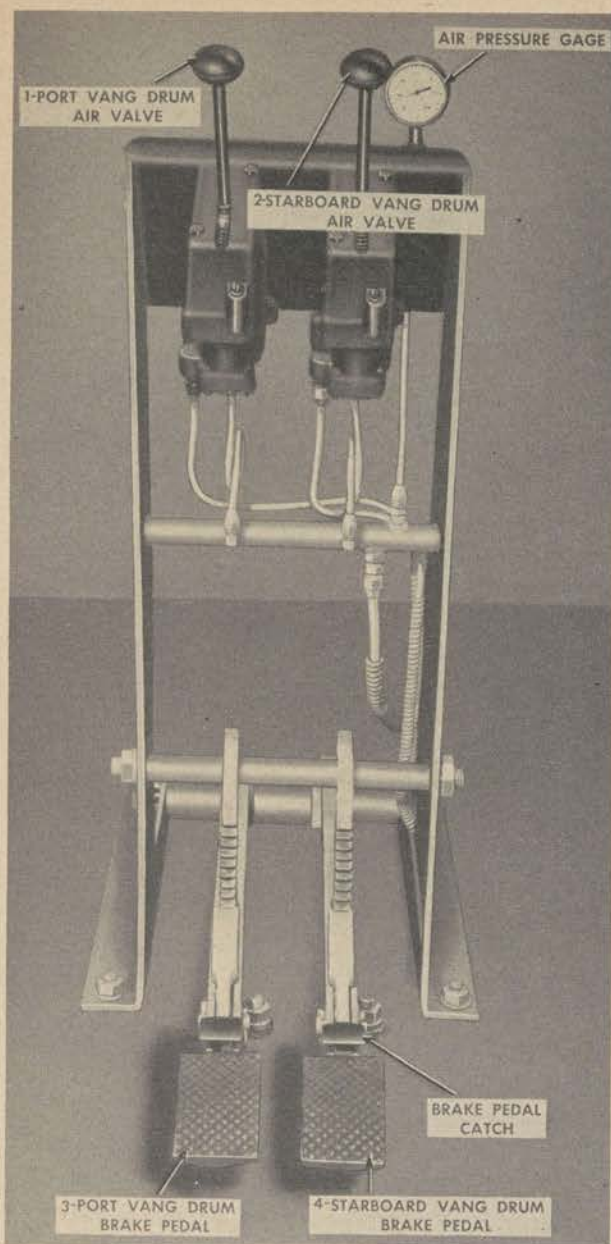

Figure 62. Controls for swinging boom.
(5) *Controls for swinging boom.* Two air valves, abreast on one control stand (fig. 62), are on the port forward side of the hoist. The valve nearest the hoist controls the starboard vang drum. The outboard valve controls the port vang drum. Valves in forward position are OFF. Valves in aft position are ON.